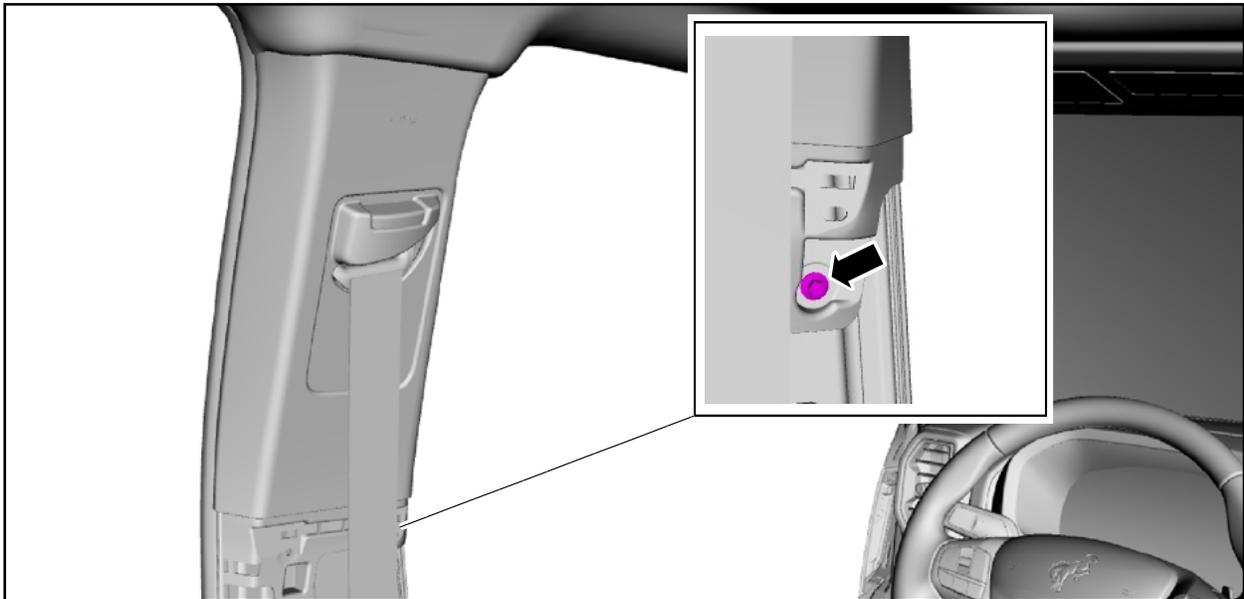

FIGURE 5
5. Remove the upper LH B-pillar trim panel bolt. See Figure 5.